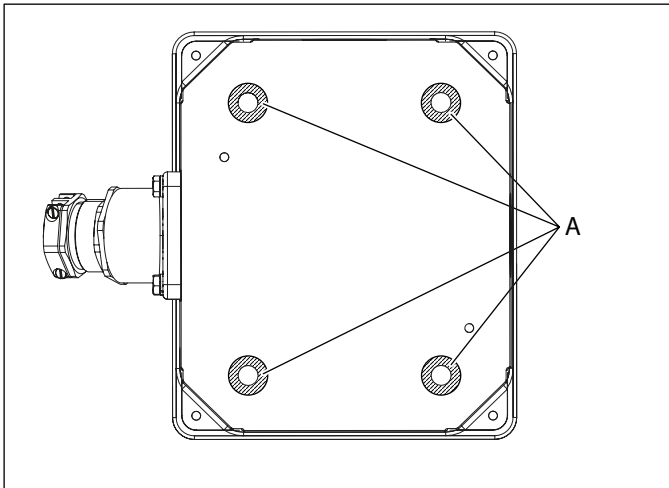
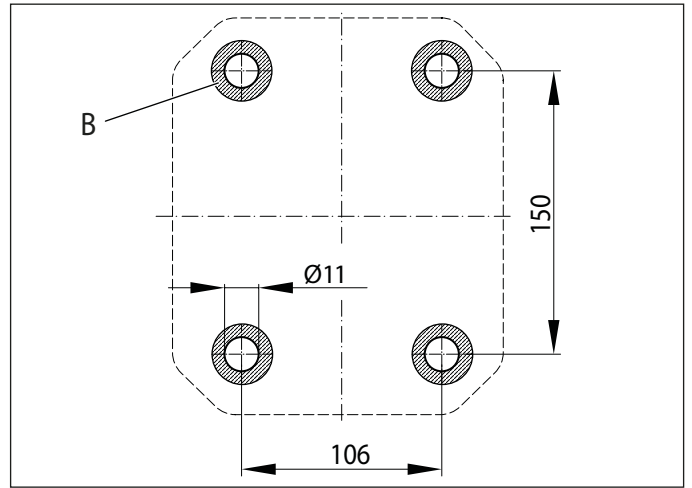

Fig. 17: View from below of the junction box
Fig. 18: Mounting holes for junction box
- Before installation, ensure that the earthing surfaces (Fig. 17/A) on the coupling socket and mounting surface (Fig. 18/B) are free of paint and any soiling.
- The dimensions and arrangement of mounting holes must be taken from Fig. 18: